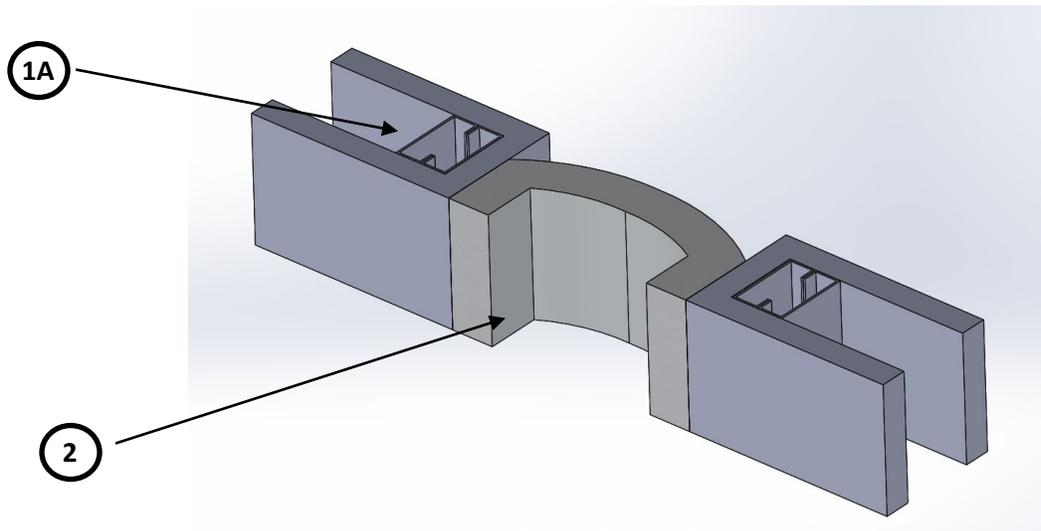

Figure 1. MetaFlex® Pro Shear Fire Barrier Wall Joint
- A. STEEL FRAMING AND GYPSUM:** Use a steel framed, gypsum wall assembly made from minimum. two layers of 5/8 in. thick, Type X gypsum board, fastened to each side of min. 25 GA steel studs (with min. 3-5/8 in. web and 1-1/4 in. flange) in accordance with the listed fire rated design. Gypsum board must be present in the throat of the joint as shown in Figure 1. Refer to Figure 1 as well for stud placement with one pair of stud's face to face on each side of joint.